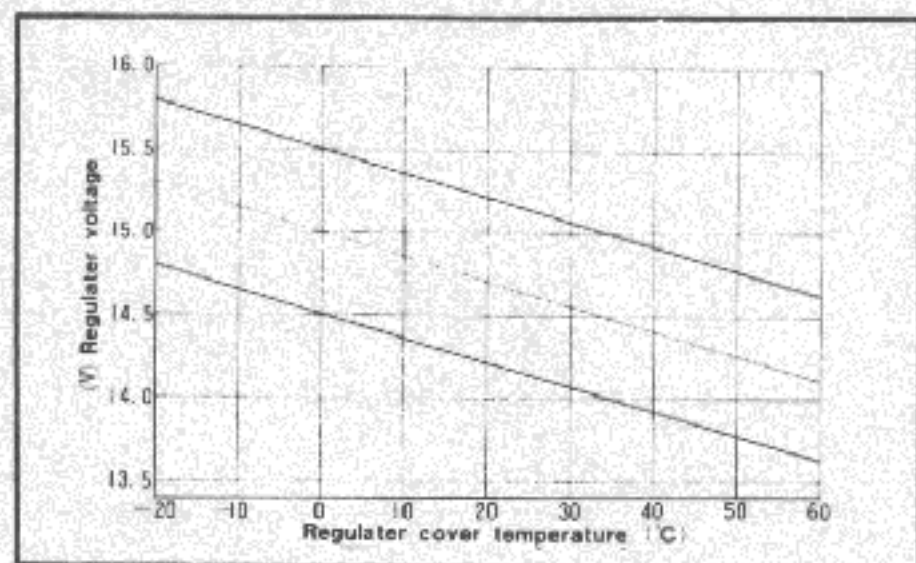

Fig. EE-70
4. When the charging current is less than 5 ampere and the voltage of this time is within the limit of Figure EE-70, it is all right. (RQ2220B).